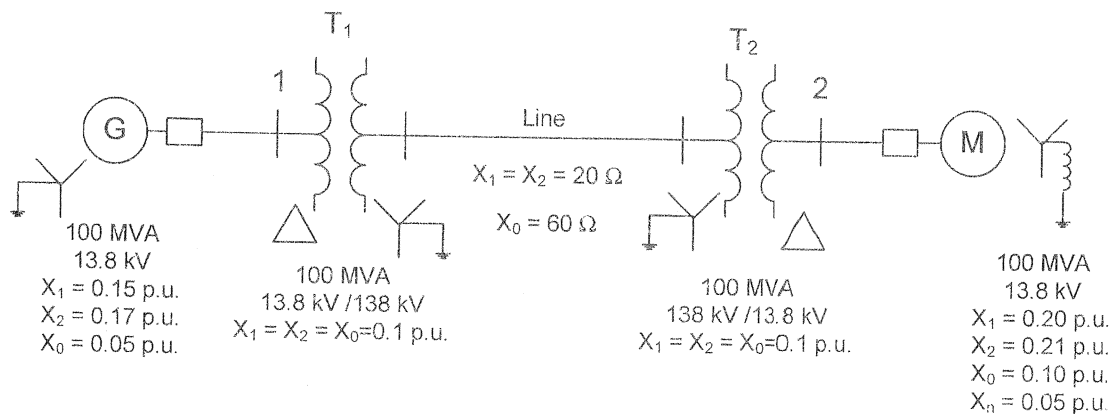

Figure Q1
- b) A single line diagram of a power system is shown in Figure Q1. The neutrals of the generator and the transformers are solidly grounded. The neutral of the motor is grounded through a reactance of $X_n = 0.05$ per unit on the motor base.
- Draw the per unit sequence network diagrams for the single line diagram shown in Figure Q1.
- Calculate the fault current for a line to line ground fault from phase 'b' to phase 'c' to ground at bus 2 in the power system shown in Figure Q1. Assume that the pre-fault voltage (V_F) at the generator is $1.05 \angle 0^\circ$ per unit.